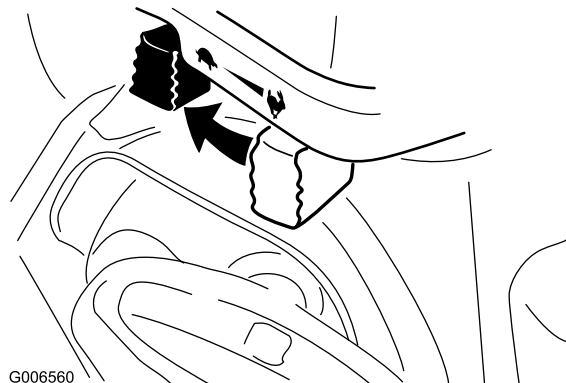

Figure 33
1. Move the throttle to the Slow position, and then to the Stop position (Figure 33).